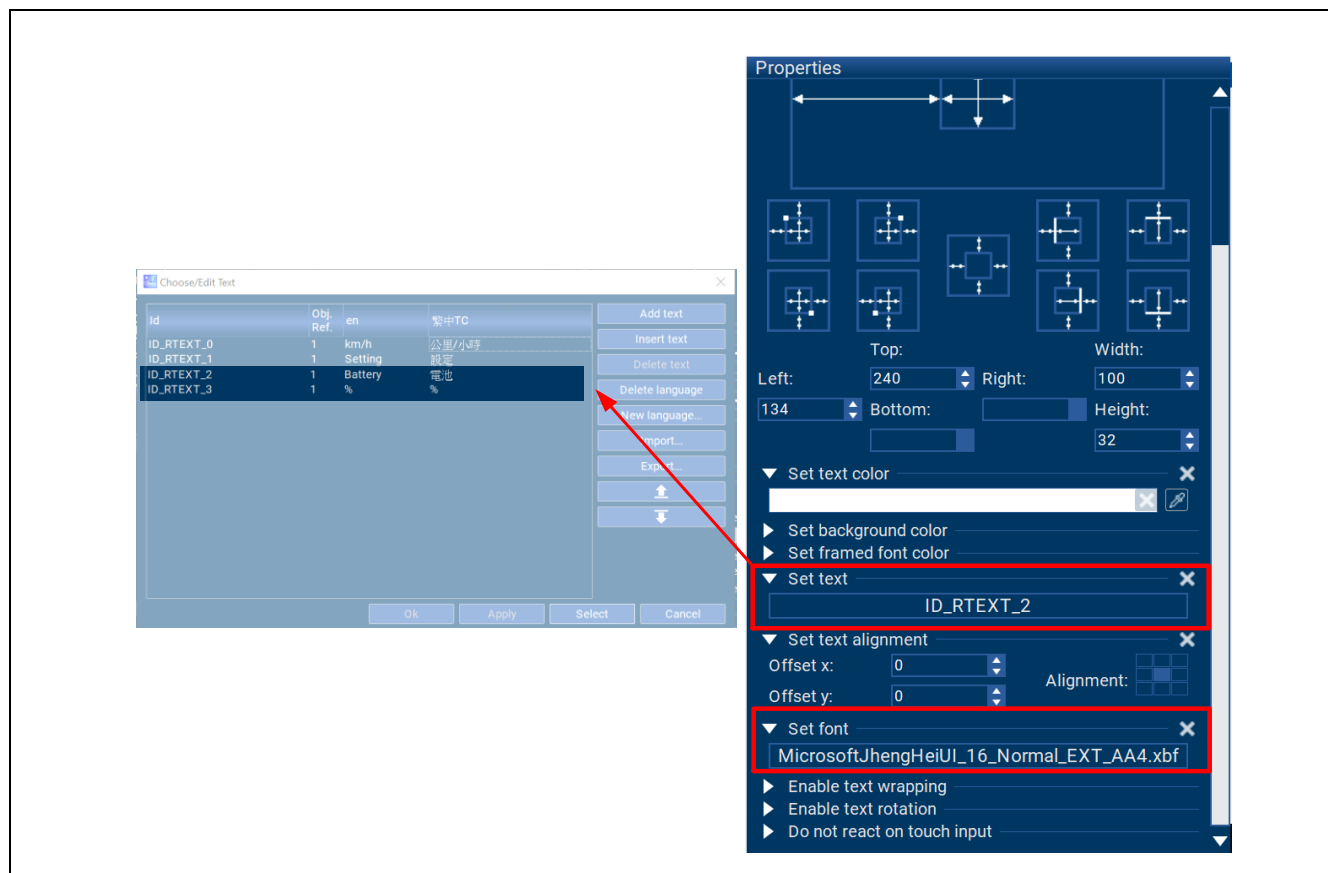
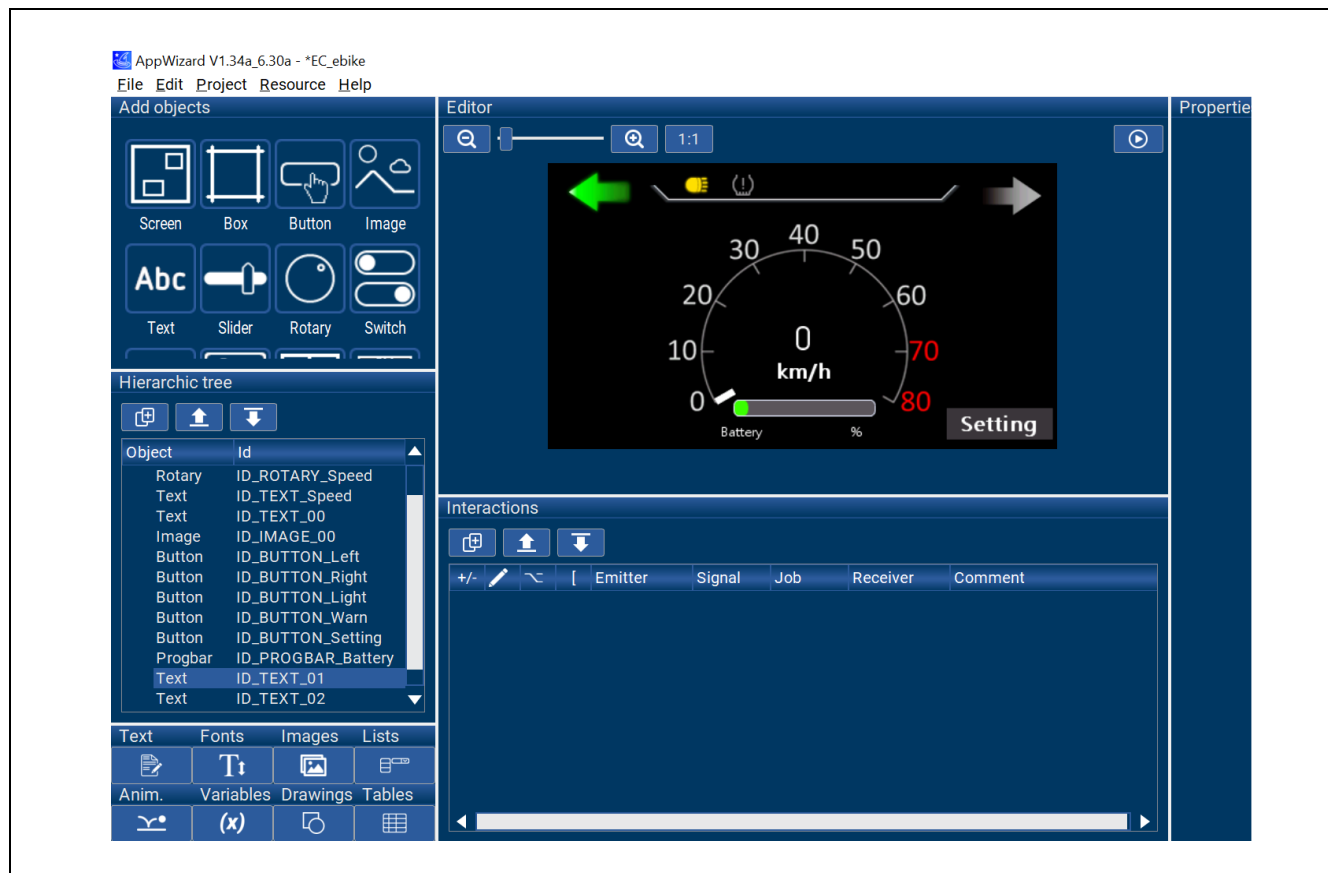

Figure 1-38 Text Object - Properties
Figure 1-39 Using Text Object to Display Battery Name and Unit
20. Use Text object to add battery description text and unit. Please follow the step 11 to set up. For the related settings in this example, refer to Figure 1-38. After completion, it should look like Figure 1-39.